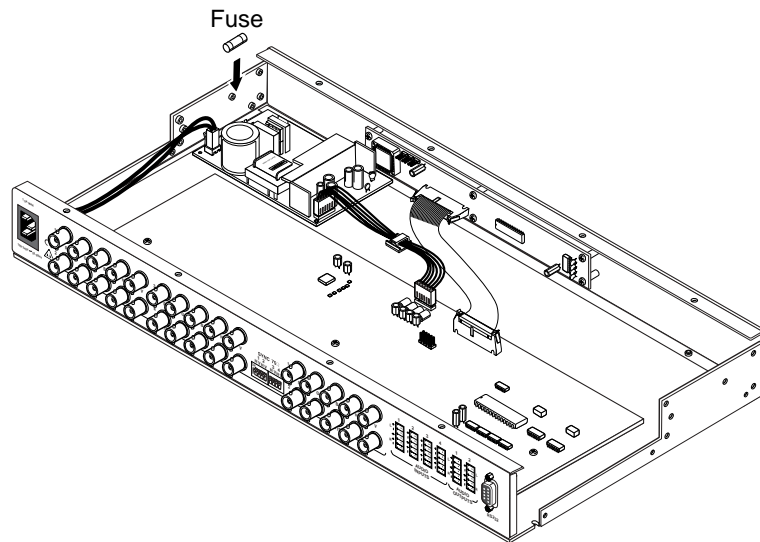

Figure B-5 — Replacing the AC Fuse
2. Locate the fuse on the power supply board (see figure B-5), and remove it from its retaining clips.